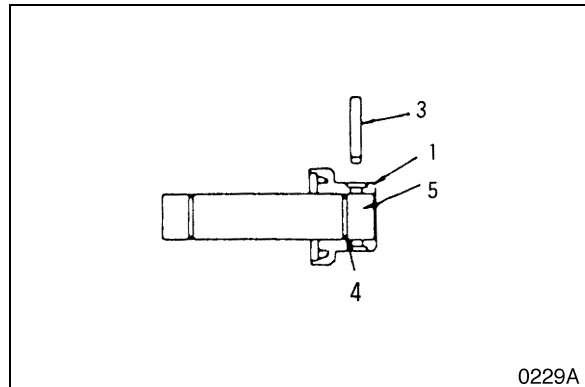

Figure 25
1. Degrease, clean and dry all parts before reassembly. Insert bushing (8, Figure 25) into the idler (7).
2. Grease O-ring (4, Figure 25) and insert it into the axle.
3. Align the bearing (1, Figure 25) and axle (5) holes and pin (3) them together.